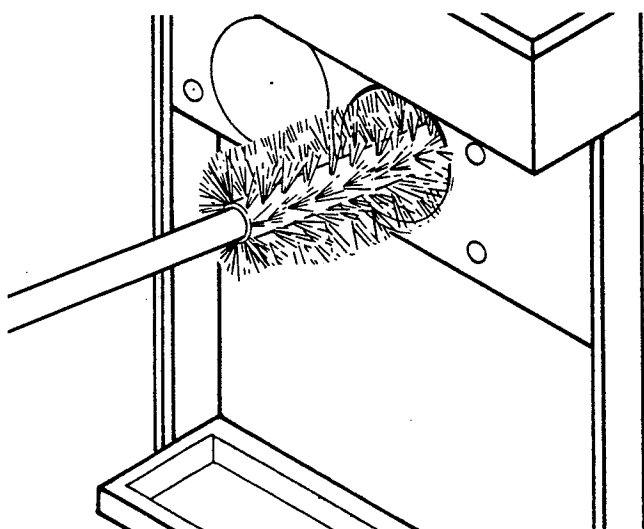

Figure 24. Cleaning Freezer Barrel
- B. Wash the hopper and freezer barrel with warm detergent water and brushes provided (Fig. 24).